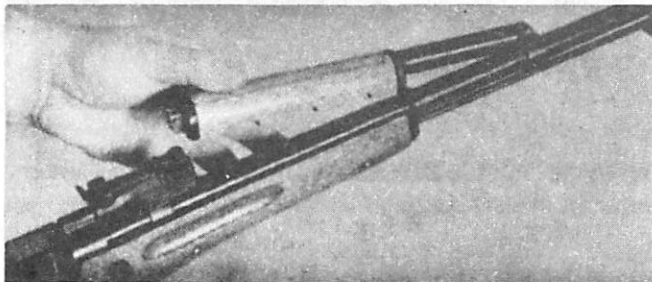

Fig. 14
6. Grasping the rear of the upper handguard carefully work the gas piston rod tube/upper handguard assembly up and off the Barrel of the rifle (Fig. 14). If the gas piston is difficult to remove from the